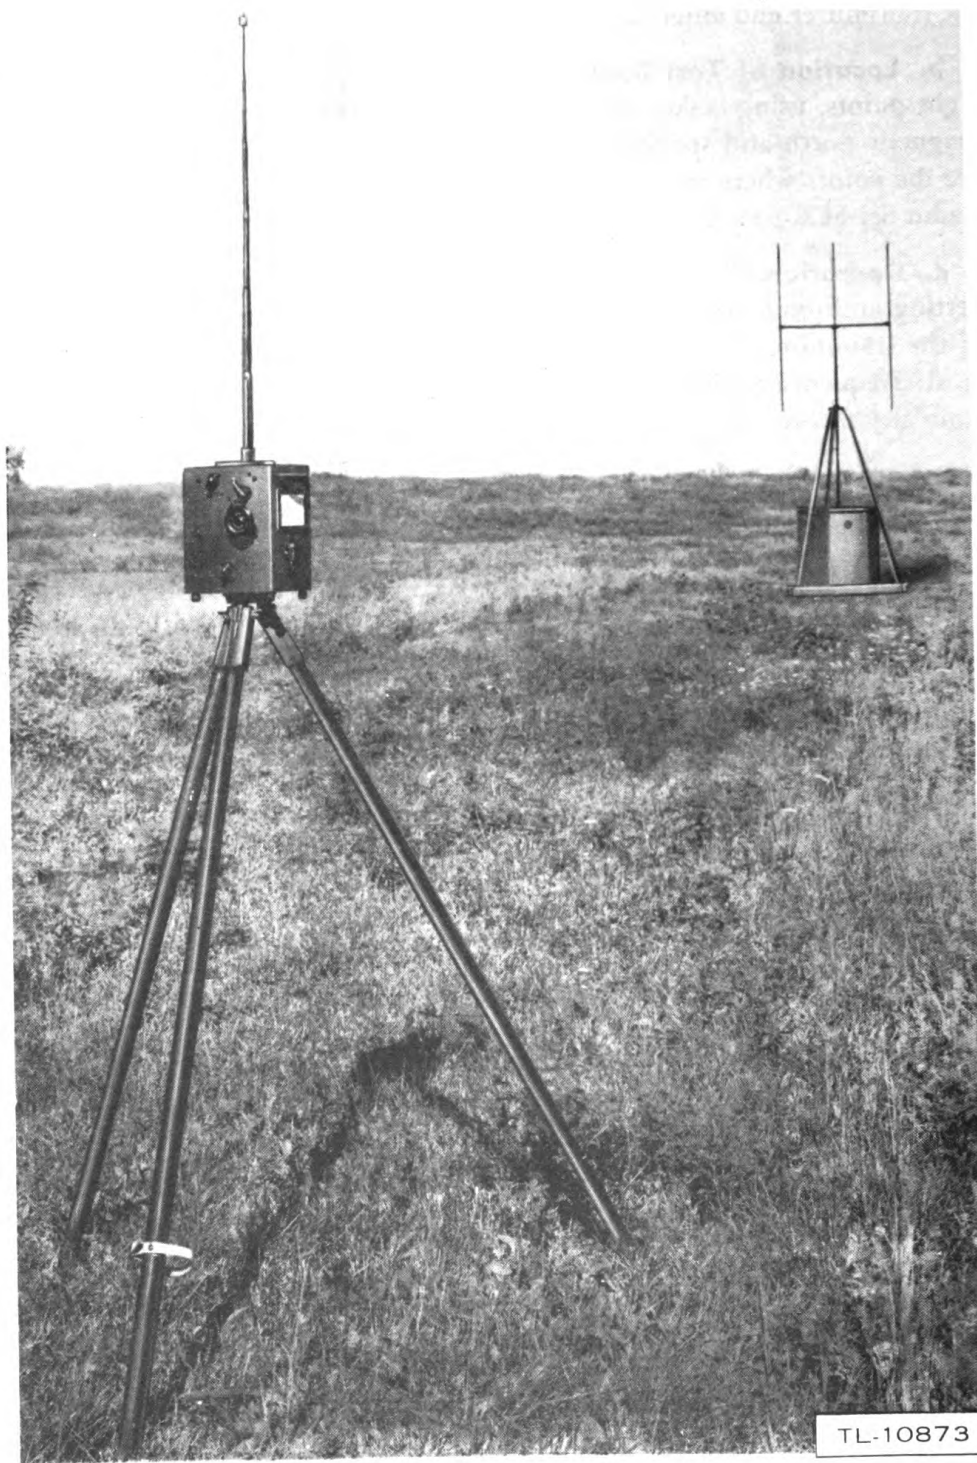

Figure 32. Radio Transmitter BC-655-A placed for operation.
a. Set the radio transmitter 50 yards from the RDF and tune it to 34 megacycles (fig. 32).